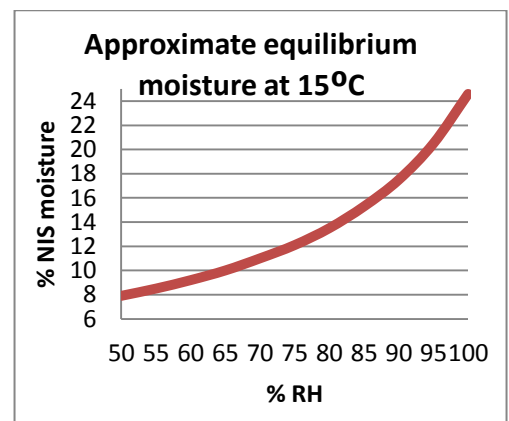

Figure 2 Approximate NIS moisture vs % RH. Use as a guide only as actual moisture may vary due to nut size, variety, kernel recovery or other factors.
- During prolonged periods of high humidity run fans if the equilibrium moisture of the NIS is above the ambient RH (see Figure 2). If there is no automatic RH controller fitted to the silo, hand held humidity meters can be used. If the RH of the outlet air is higher than the inlet air some drying is occurring. Empty silo completely between batches, do not mix wet and dry nuts.